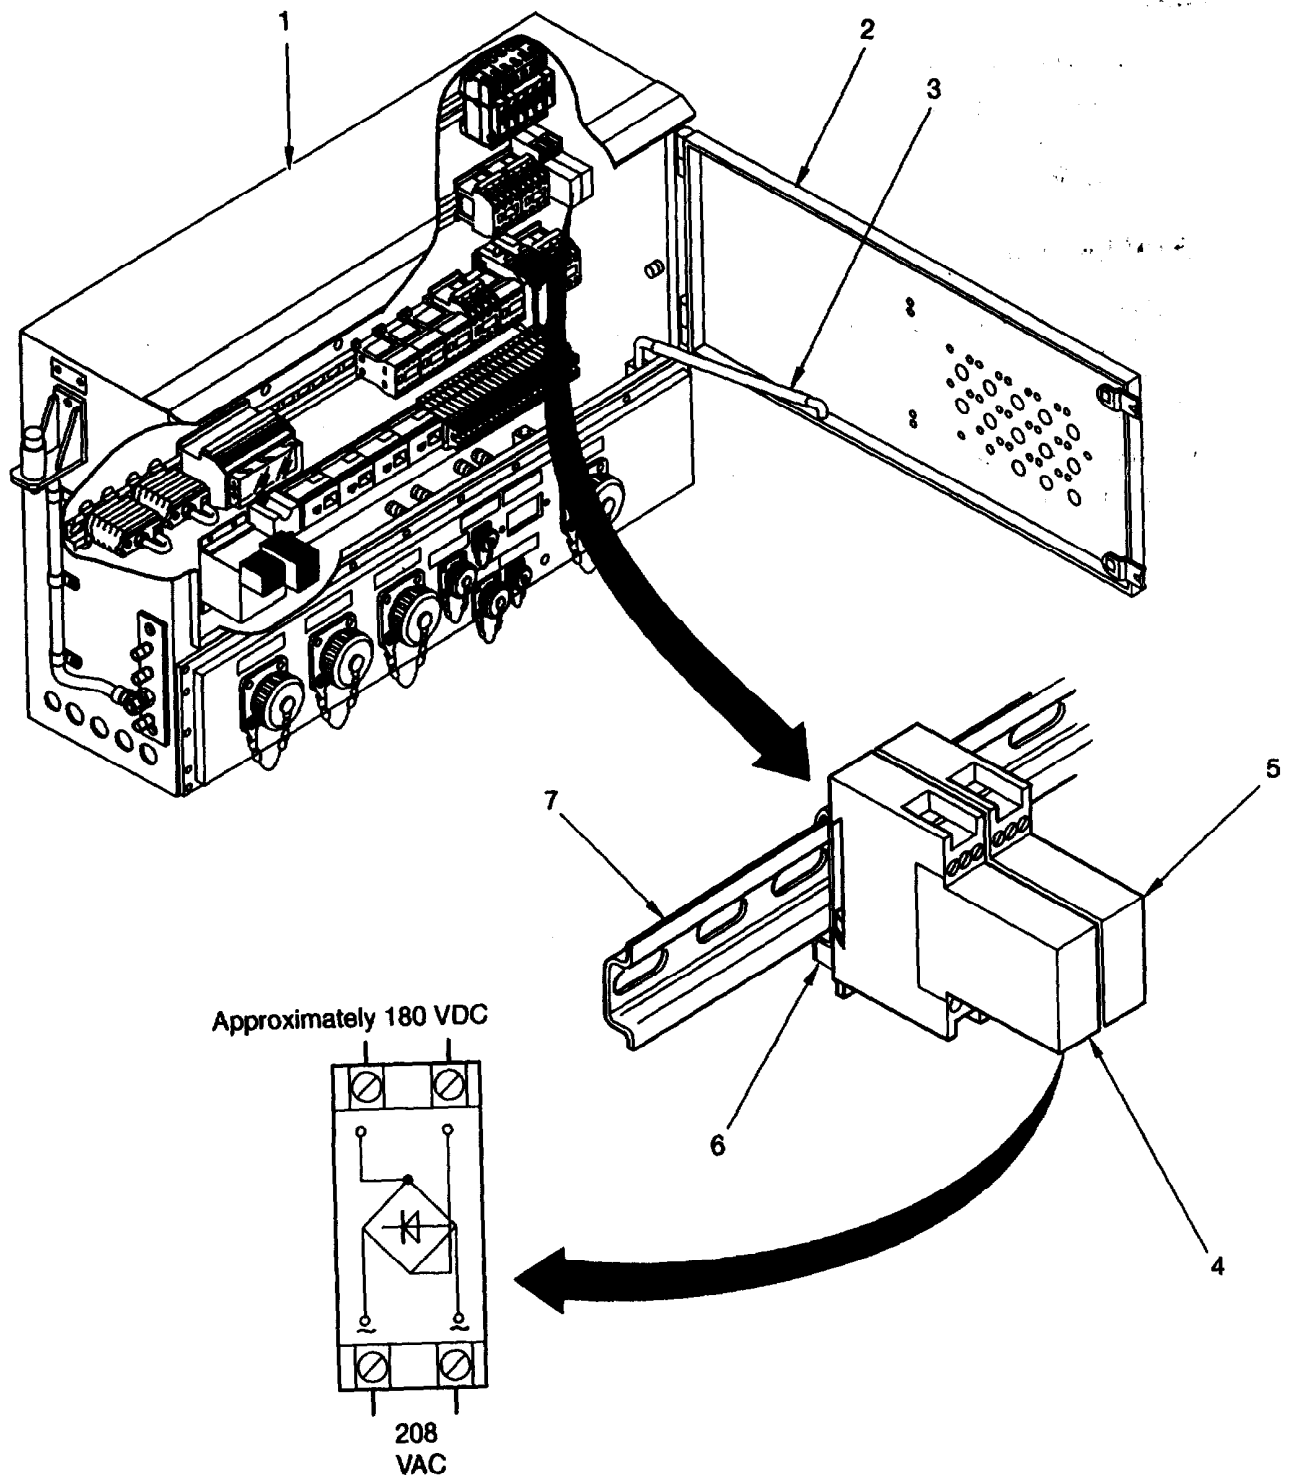

Figure 4-45 AC/DC Transformer:
- a. Remove stanchion by PDU (1, figure 4-45).
- b. Open access door (2) and secure with prop (3).
- d. Record labeling and position of cables of AC/DC transformer V3 (4) or V4 (5), loosen screws and remove cables.
- e. Use a screwdriver to push locking element (6) on AC/DC transformer in direction of arrow, tilt AC/DC transformer upward, and remove from mounting bar (7).